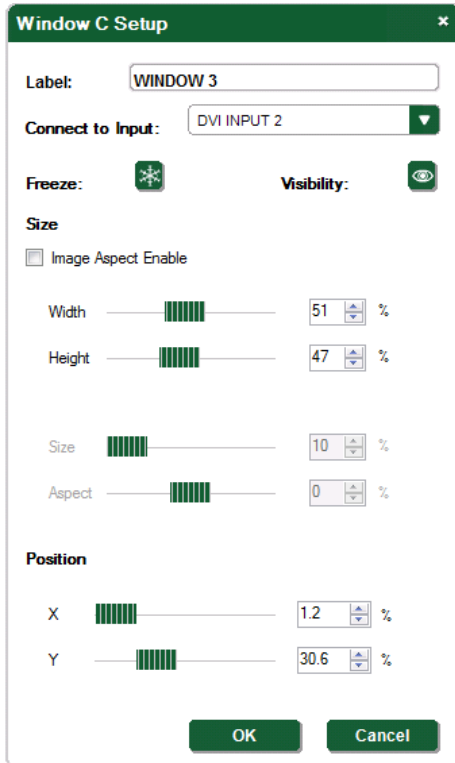

Figure 21: Windows Setup Window
2. The **Window Setup** window appears as shown in Figure 21.